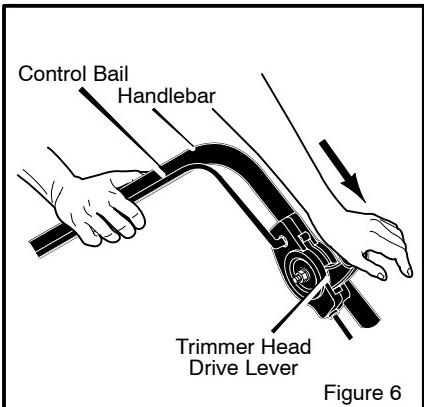

Figure 6
1. To engage the trimmer head, hold the **control bail** against the **handle**. Move the **trimmer head drive lever** forward to engage the trimmer head. See Figure 6. The faster the engine runs, the faster the trimmer head will rotate.